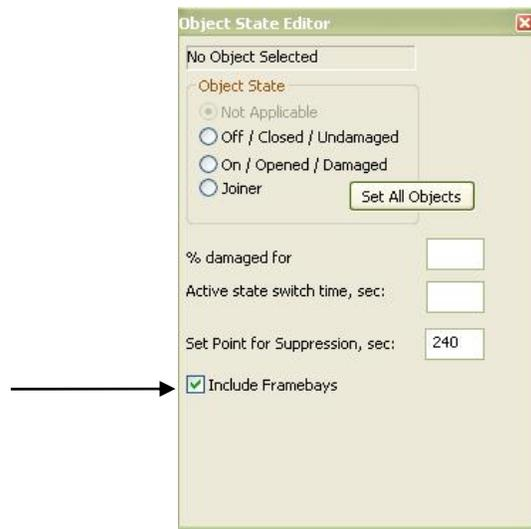

Figure 3-8 Including framebays in the Object State Editor
Step 5: In the object state popup window (Figure 3-8), check the *Include FrameBays* box. This currently applies only to the Confined\_Space.